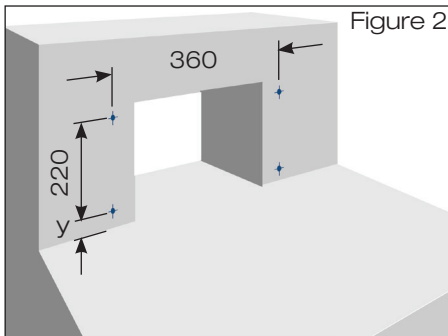

Figure 2
- 1.2 Drill 10 mm diameter holes for sliding flange (fig. 2).